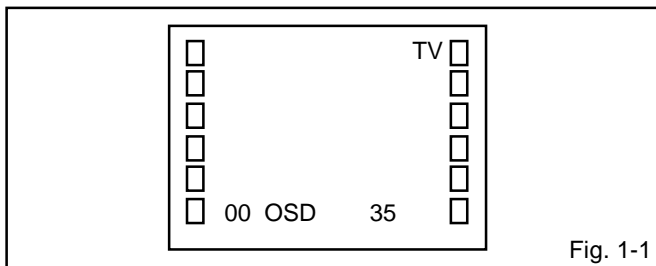

Fig. 1-1
Press the VOL. DOWN button on the set and the Channel button **(9)** on the remote control for more than 1 second to appear the adjustment mode on the screen as shown in **Fig. 1-1**.
4. Activate the adjustment mode display of **Fig. 1-1** and press the channel button **(01)** on the remote control to select "CUT OFF".
4. Activate the adjustment mode display of **Fig. 1-1** and press the channel button **(12)** on the remote control to select "R CUT OFF".
3. Activate the adjustment mode display of **Fig. 1-1** and press the channel button **(03)** on the remote control to select "H. PHAS".